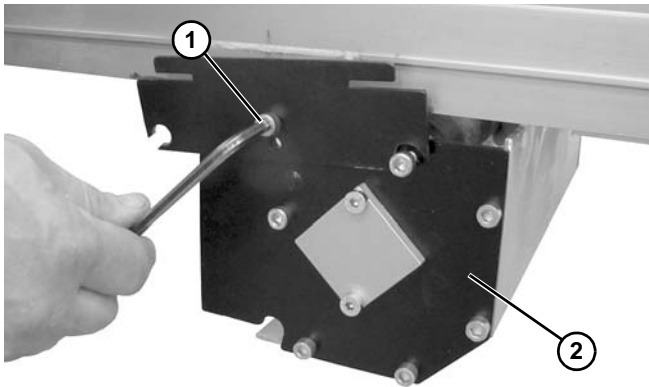

**Figure 54**
3. Remove screw (**Figure 54, item 1**) on both sides of bracket and remove takeup roller (**Figure 54, item 2**).